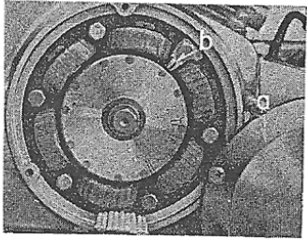

Fig. 23
1. Remove A.C. dynamo rotor cover on the right side crankcase cover, and rotate the rotor clockwise to the "T" mark on the rotor position at the foremost point as seen in Fig. 23.